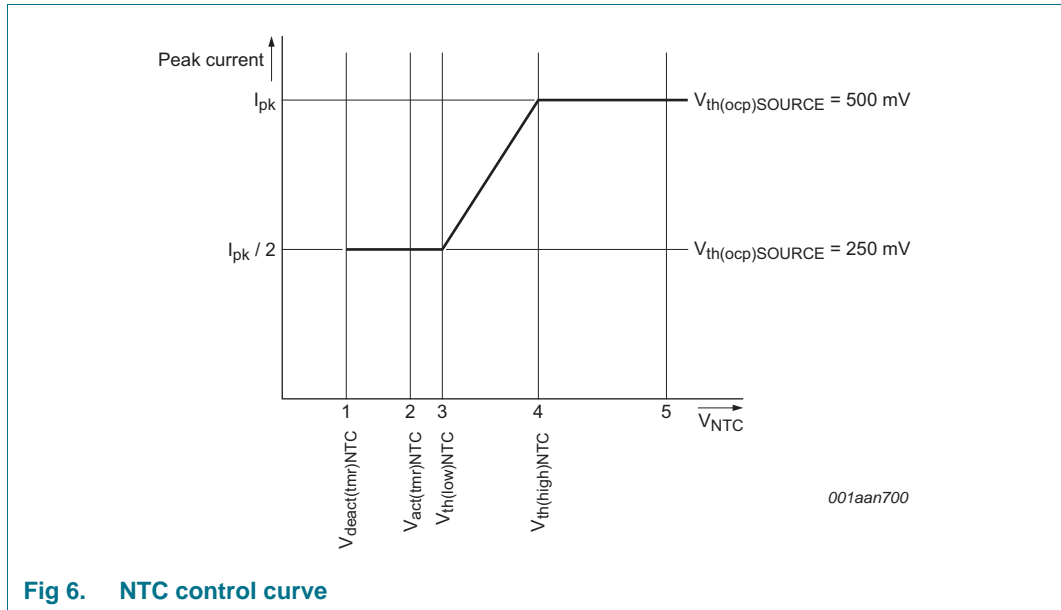

Fig 6. NTC control curve
The NTC pin can be used as a control method for LED thermal protection. Alternatively, the pin can be used as an input to disable/enable light output using a digital signal (PWM dimming). The pin has an internal current source that generates the current of $I_{\text{offset}(NTC)}$. An NTC resistor to monitor the LED temperature can be directly connected to the NTC pin. Depending on the resistance value and the corresponding voltage on the NTC pin, the converter reacts as shown in Figure 6.
When the voltage on the NTC pin exceeds $V_{th(high)NTC}$ (see Figure 6 (4)), the converter delivers nominal output current. When the voltage is lower than this level, the peak current is gradually reduced until $V_{th(low)NTC}$ is reached (see Figure 6 (3)). The peak current is now half the peak current of nominal operation. When $V_{act(tmr)NTC}$ is passed (see Figure 6 (2)) a timer starts to run to distinguish between the following situations:
- If the low-level $V_{deact(tmr)NTC}$ is not reached within time $t_{to(deact)NTC}$, (see Figure 6 (1)) LED overtemperature is detected. The IC stops switching and attempts to restart from the HV pin voltage. The converter restarts from an NTC protection shutdown when the voltage on the NTC pin exceeds $V_{th(high)NTC}$ (see Figure 6 (4)). It is assumed that the reduction in peak current does not result in a lower NTC temperature and LED OTP is activated.
- If the low-level $V_{deact(tmr)NTC}$ is reached within the time $t_{to(deact)NTC}$, (see Figure 6 (1)) it is assumed that the pin is pulled down externally. The restart function is not triggered. Instead, the output current is reduced to zero. PWM dimming can be implemented this way. The output current rises again when the voltage is higher than $V_{th(low)NTC}$.
The NTC pin can be used to make a soft start function. During switch-on, the level on the NTC pin is low. By connecting a capacitor (in parallel with the NTC resistor), a time constant can be defined. The time constant causes the level on the NTC pin to increase slowly. When passing level $V_{th(low)NTC}$ (see Figure 6 (3)), the convertor starts with half of the maximum current. The output current slowly increases to maximum when $V_{th(high)NTC}$ (see Figure 6 (4)) is reached.